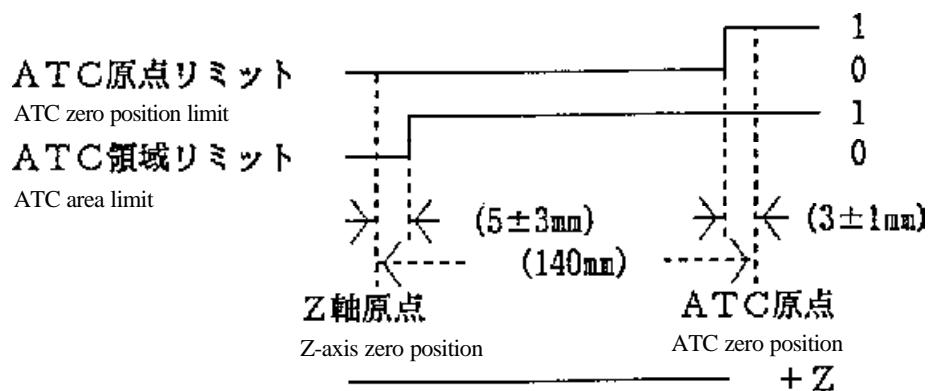

Fig.1 Normal motion
If it is working properly, limit switch moves as shown in the figure 1.
If not working as shown in the fig.1, ATC area limit switch is damaged or dislocated, or the cable is disconnected.
- 2) For the cause 3, check if the value of the bit F of input 9 (Refer to the fig.1) on the <I/O> screen.